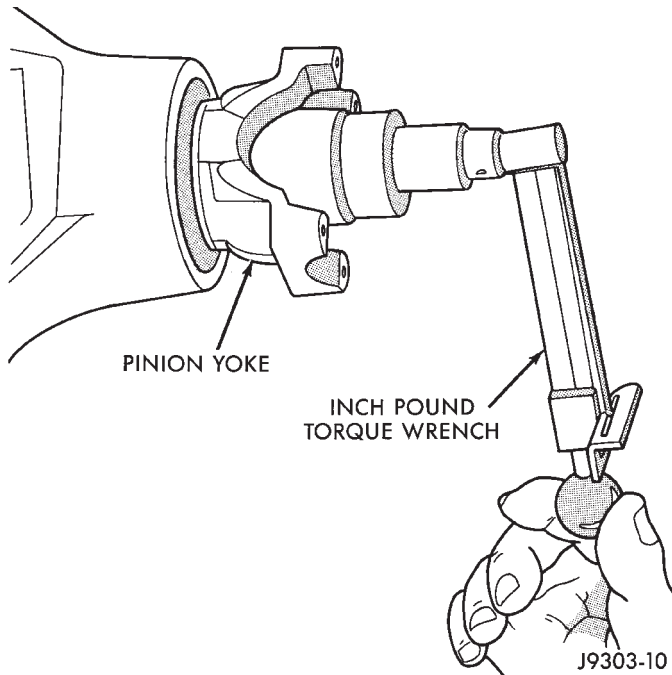

Fig. 58 Check Pinion Gear Rotation Torque
(11) Slowly tighten the nut in 6.8 N·m (5 ft. lbs.) increments until the rotating torque is achieved. Measure the rotating torque frequently to avoid over crushing the collapsible spacer (Fig. 58).
wrench (Fig. 58). The torque necessary to rotate the pinion gear should be: